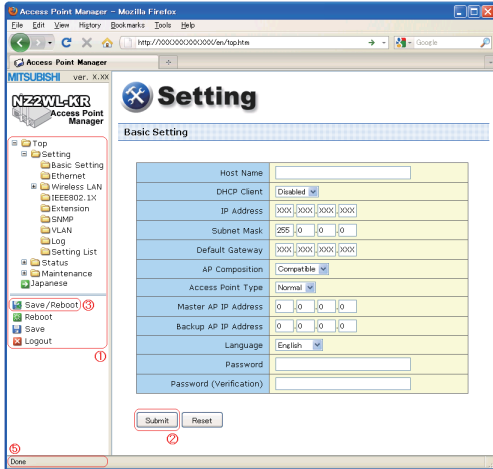

Figure 3.3. Setting by Access Point Manager (KR)
Select “Setting” in the left-hand menu (1) in Figure 3.3) and further select the desired setting items from the opened menu. Information such as setting items will be displayed in the right-hand frame.
Click “Submit” (2) in Figure 3.3) after changing settings on each page to temporarily save the settings in this product.
The settings become enabled when the product is restarted after all the setup procedure is completed and the settings are stored. Click “Save/Reboot” (3) in Figure 3.3) on the left-hand menu.
"Time Out Error" will occur when there is no operation for approximately five minutes. The indicator (a bar drawn with ".") on the status bar (5) in Figure 3.3) represents the approximate time for timeout^{*1}. The number of "." is gradually decreased and all "." disappear before timeout.